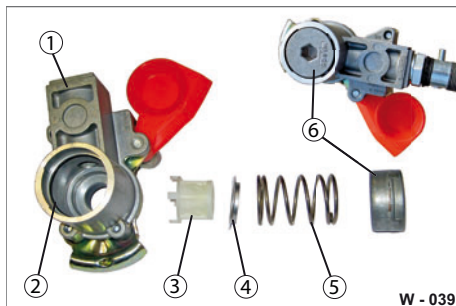

Fig. 40 Coupling head disassembled
- ▶ Press in the cover (Fig. 40/6) with a hexagon socket up to the limit position in the housing (Fig. 40/1). Turn the hexagon socket key by 90°.
- ▶ Remove the spring (Fig. 40/5), the metal ring (Fig. 40/4) and the filter (Fig. 40/3) from the housing.
- ▶ Check if the seal (Fig. 40/2) is present or damaged.